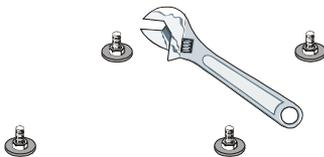

Figure 8. Tighten nuts with wrench.
8. Refer to Figures 8 and 9. Align the four holes in the base of the dispensing mechanism with the four holes in the turntable. Secure the dispensing mechanism to the turntable with the four #6-32 x 5/16 screws supplied.
Figures 8 and 9. Location of dispenser/turntable mounting holes.